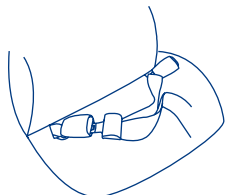

Fig. 40-2
4. Buckle the seat belt being careful that the seat belt is not twisted and is securely latched into the appropriate buckle, and not the adjacent buckle. (Fig. 40-2)